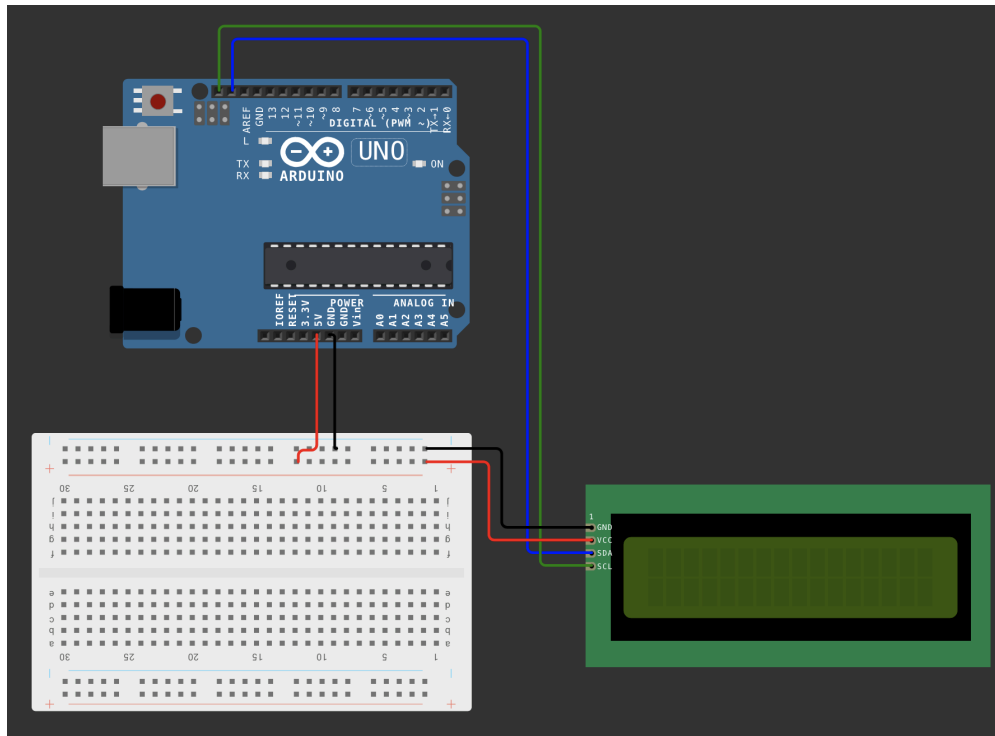

Figure 8: LCD and Arduino Circuit Diagram (<https://wokwi.com/>)
1. Wire the circuit according to the wiring diagram below in Figure 8.